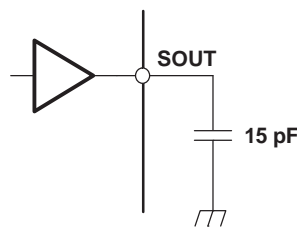

Figure 4. Test Circuit for  $t_{r0}$ ,  $t_{f0}$ ,  $t_{pd0}$ ,  $t_{pd1}$
- (1) See Figure 4. Defined as from 10% to 90%
- (3) See Figure 4, Figure 14
- (4) "↑" and "↓" indicates a rising edge, and a falling edge respectively.